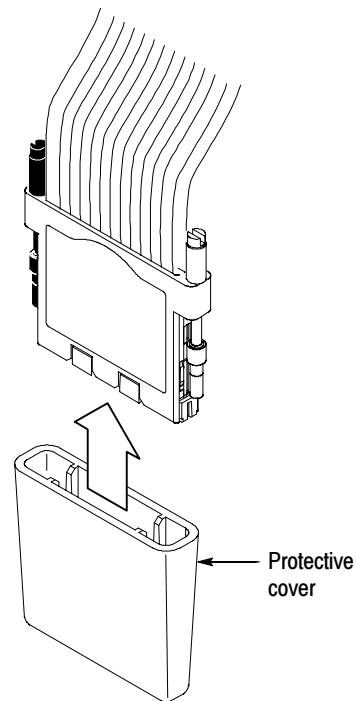

Figure 13: Protecting the probe heads
- Always store the probe head in the protective cover when not in use. See Figure 13 on page 17.
To protect the interface clip, it is important to properly store the probe heads when the probes are not in use. See Figure 13.